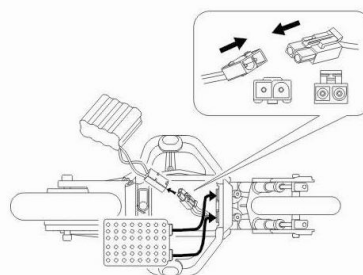

Fig5
- 2.Connecting the plug of rechargeable battery pack and power plug of car in right way, put in battery box, cover the battery lid, rotate the battery cover press button to battery cover.(Figure 5)